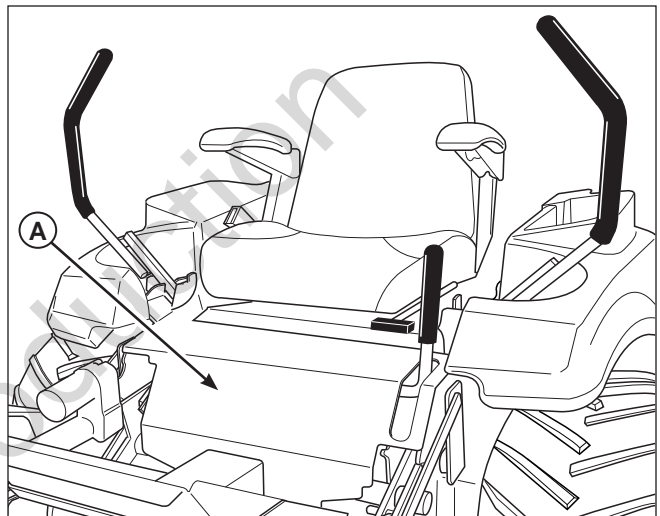

Figure 37. Remove the Kick Plate
2. Remove the kick plate (A, Figure 37)